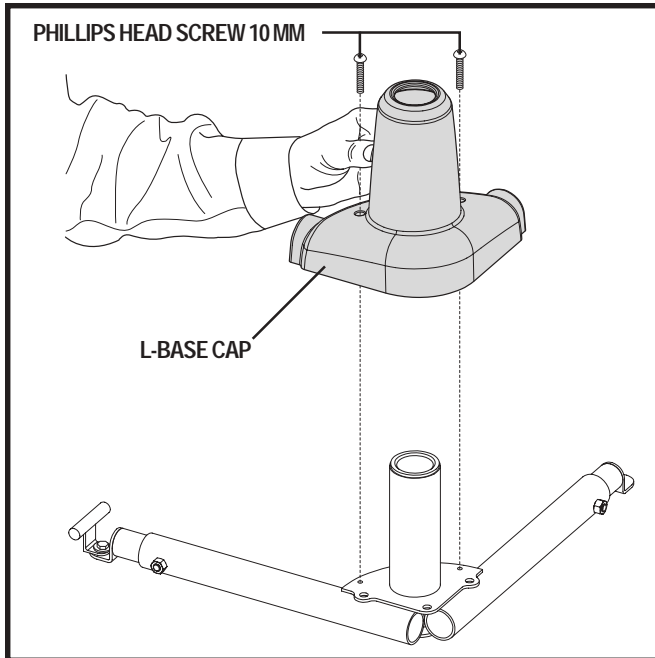

Figure 10. L-Base Cap Installation
7. Place the L-base cap over the L-base and secure it with the supplied screws. **See figure 10.**